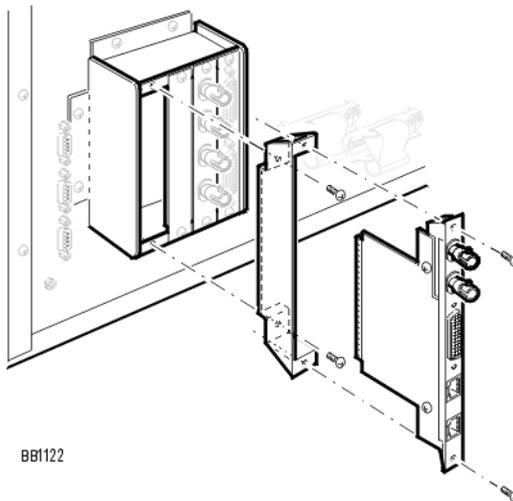

Figure 27: BRI Interface Assembly Installation
2. Install the BRI interface assembly (see Figure 27 below). For details, see "Install the Interface Assemblies" on page 49.